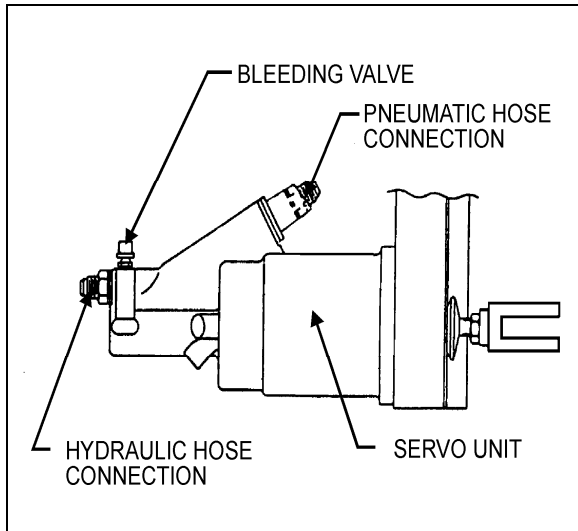

FIGURE 6: SERVO UNIT 02002
2. Connect a plastic tube to the bleeding valve (Fig. 6). Dip the other end of the tube in a jar containing several inches of clean brake fluid.
2. Slightly loosen teflon flexible hydraulic hose connector from adapter mounted on extremity of servo unit (Fig. 6).
The pneumatic air line filter should be cleaned every 6,250 miles (10 000 km) or twice a year, whichever comes first (Fig. 6). The filter is mounted inside the servo unit pneumatic branch.